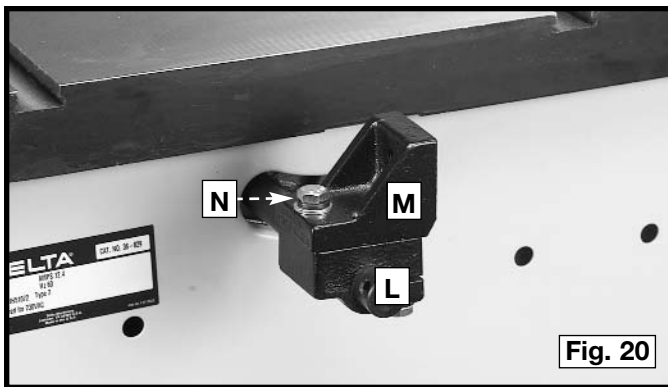

Fig. 20
8. Use a 5/16-18x1" hex head bolt (N) with 5/16" lockwasher and 5/16" flat washer to attach the upper splitter bracket (M) Fig. 20 to the lower bracket (L) . **NOTE:** Hand tighten only.